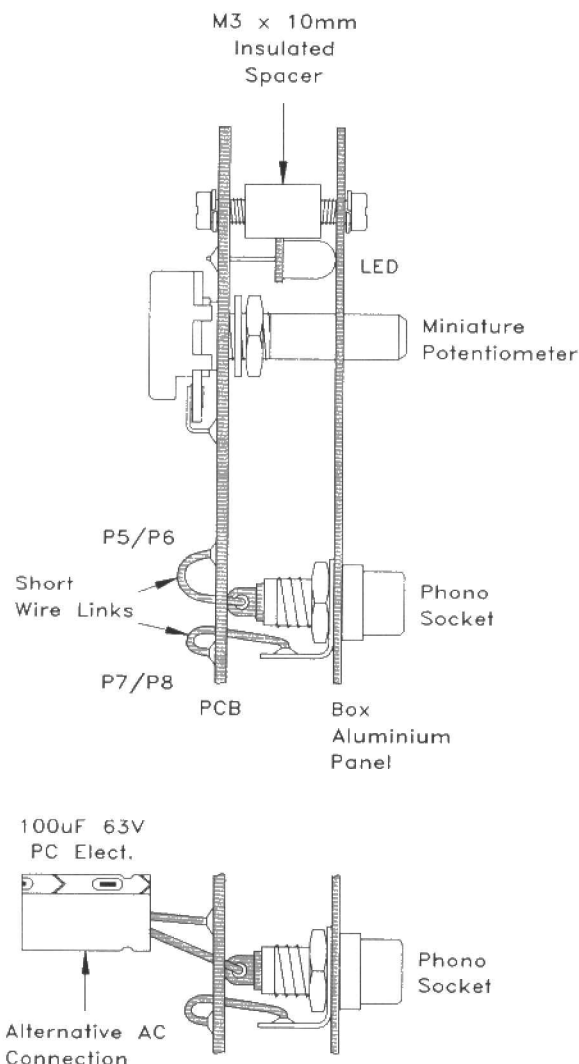

Figure 5. Mechanical assembly.
When installing the two miniature rotary potentiometers RV2 and RV6 follow the mechanical assembly information provided in Figure 5, ensuring that you fit the correct value pot at each position. When secured, bend down the tags so that they are touching the pads on the track side of the PCB and solder them as shown. The seven LEDs LD1 to LD7 are all mounted 5mm above the surface of the board, see Figure 5. The short lead of each LED is cathode (K); this is also denoted by a flat along one side of the package, which must match up with its outline on the PCB legend.
After preparing the front panel secure the two Phono sockets SK1 and 2 using the hardware provided, see Figure 5. Solder two short wire links on to each socket and position the solder tags so the wires do not have to cross over when the PCB assembly is attached to the front panel. It is also very important that these tags should not touch any of the components on the board as either could result in a short circuit.
Next mount the PCB assembly on to the front panel, using the four 10mm insulated spacers, and check that all seven LEDs have passed through the panel, see Figure 5. Now connect up SK1 and 2 to the following solder pads: SK1 Centre terminal to P5; SK1 Solder tag to P8; SK2 Centre terminal to P6; SK2 Solder tag to P7.